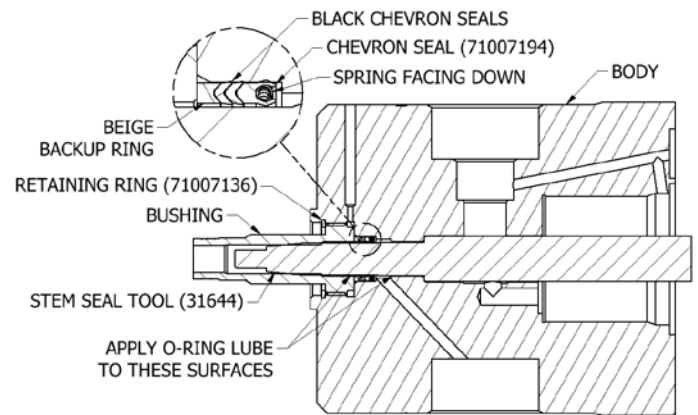

Figure 12 – Stem Seal Cross Section
- 10.1 Apply O-ring lube to stem seal tool. See Figure 12
- 10.4 While holding stem seal tool in place, install a new chevron seal (71007194) over the stem seal tool. See Figures 12 and 13 for orientation of the chevron seal.